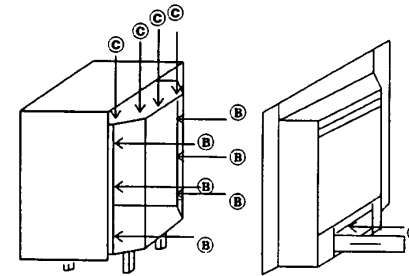

fig. 6
1. Remove the front by loosening the screws A (see fig 6).
2. Remove the glass by removing the glass clamps B for instance with a screwdriver. Remove the nuts C and the strip on top of the glass. Careful when removing the glass! (fig 6.) Use gloves! Be sure that there are no fingerprints on the glass, it is not possible to remove those prints after you burn the appliance for a while (they will be burnt in).